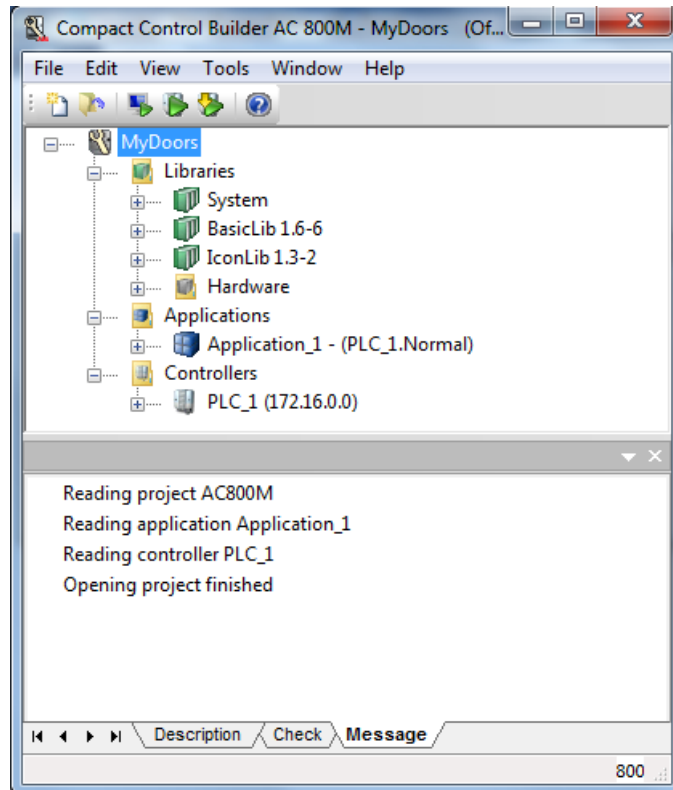

Figure 20. MyDoors project opened in Project Explorer
3. Click **OK**. Project Explorer creates and opens MyDoors project, see Figure 20.